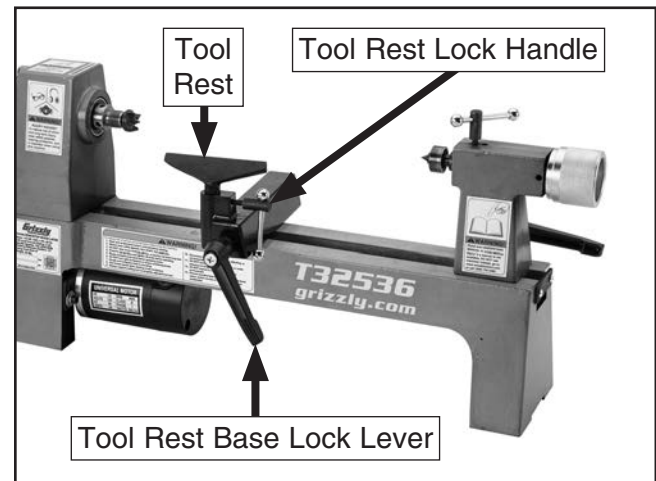

Figure 13. Tool rest controls.
1. Loosen tool rest base lock lever and move tool rest assembly to desired position on lathe bed, as shown in **Figure 13**.
3. Loosen tool rest lock handle (see **Figure 13**).